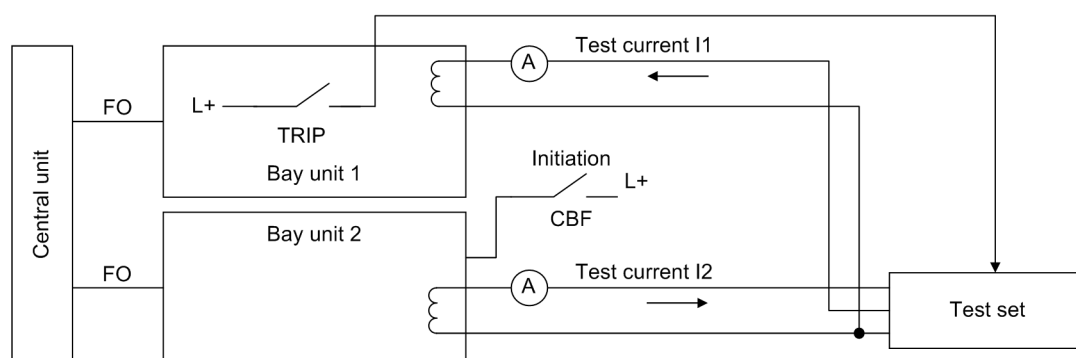

Figure 7-14 Test setup for the trip characteristic of the breaker failure protection
**Test setup** The test setup is shown in Figure 7-14, page 285.
The test setup for the measuring of the time delay is shown in Figure 7-14, page 285.